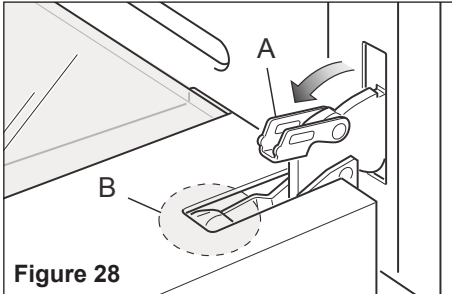

Figure 28
- Open the lever “A” completely on the left and right hinges (fig. 28).
- Gently close the door until left and right hinge levers “A” are hooked to part “B” of the door (figs. 28, 29).